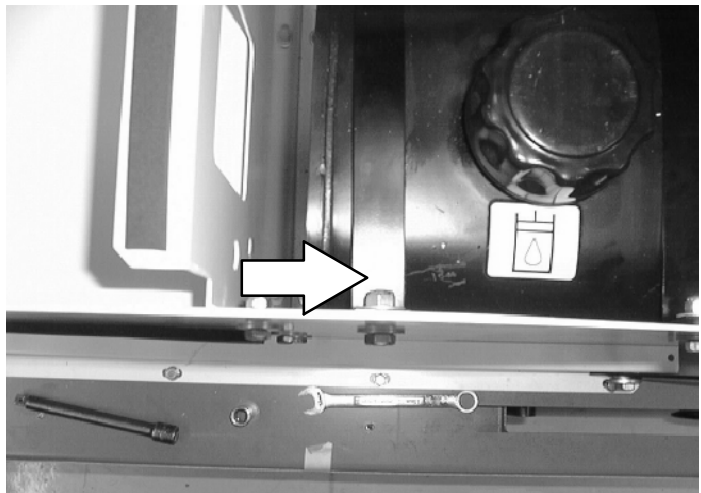

FIG. 2
7. Loosen the hydraulic tank straps and carefully push the hydraulic tank towards the front of the machine. (Refer to FIG. 2)
18. Move the hydraulic tank back into place and secure with hydraulic straps. (Refer to FIG. 2)